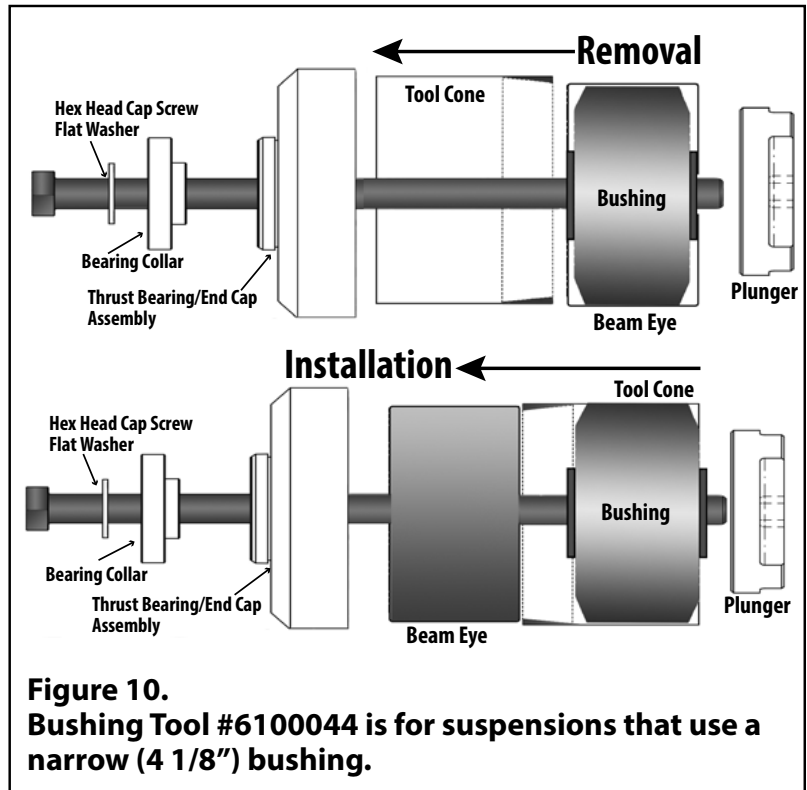

Figure 10. Bushing Tool #6100044 is for suspensions that use a narrow (4 1/8") bushing.
2. Place flat washer onto hex-head bolt, followed by the bearing collar, then the end cap assembly. The tool cone tapers to a smaller opening on one end. Place the larger opening of the cone onto the end cap. NOTE: Always place the tapered end of the cone against the eye of the beam (Fig. 10).
4. Place the plunger/cone/bushing assembly on the beam eye (Fig. 10).